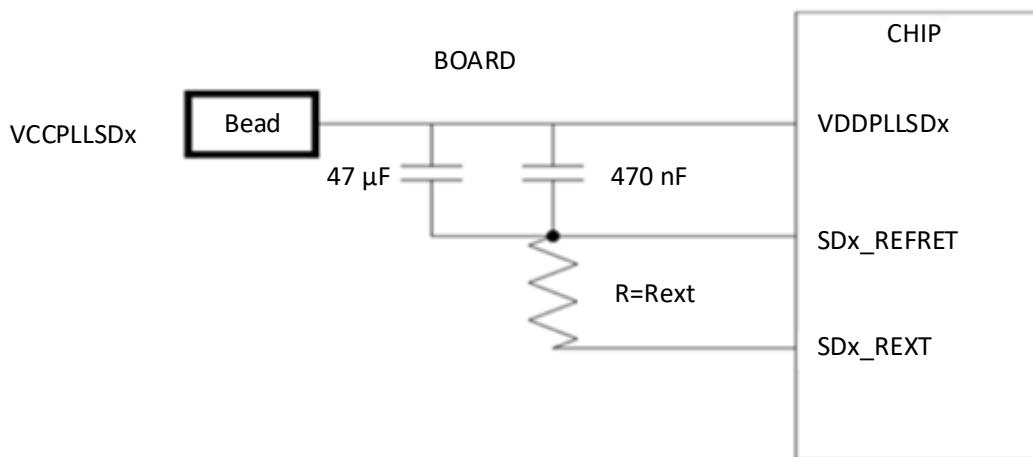

Figure 13.1. Example Connection to Analog Power and Reference Pins
- The power and ground traces should be short, and run close and parallel as far as possible, with large spacings to adjacent traces. On no account should any connection be made from VCCPLLDx or SDx_REFRET directly to board power planes; only connect as described above and depicted in Figure 13.1.